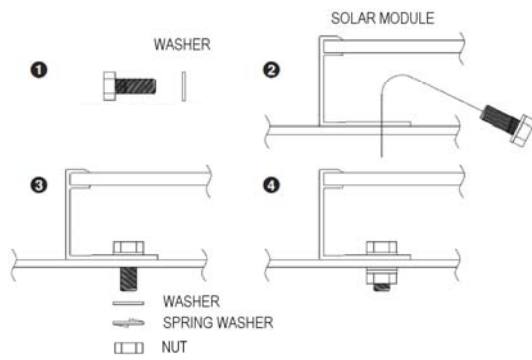

Figure 6
Mounting Using Frame Bolt Holes (Figures 6)
The modules may be fastened to a support utilizing the four 9 mm diameter holes in the bottom of the frame and according to Figure 6. The module should be fastened with four (4) M8 (5/16") bolts. Recommended torque value is 12.5 Nm. This mounting method is designed to a static load of 2400 Pa (50.1 lbs/ft²). For your reference, please use the washer specified as below for the minimum requirement: